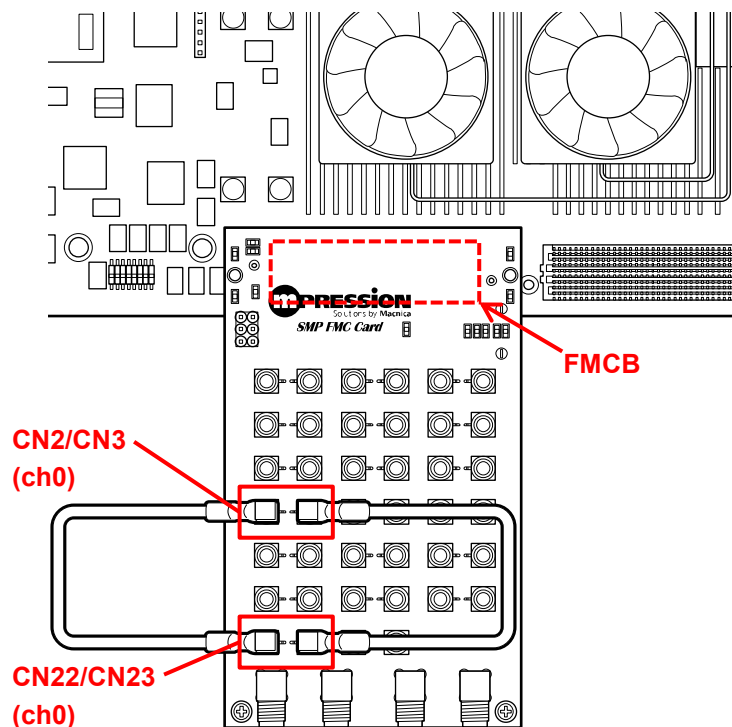

Figure 5-3 Arria® 10 GX FPGA Development Kit Assembly
- 3) Testing channel 0, choose the SMP CN#s corresponding to channel 0 in Table 5-3 and connect cables between those CN#s as illustrated in Figure 5-3.